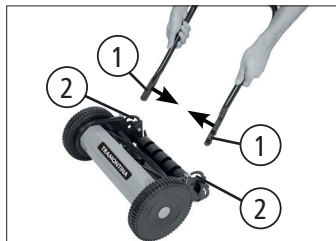

Fig. 02
Attach the lower arm to the lawn mower frame by fixating the arm pins (1) to the inner holes (2) of the lawn mower (Fig. 02).